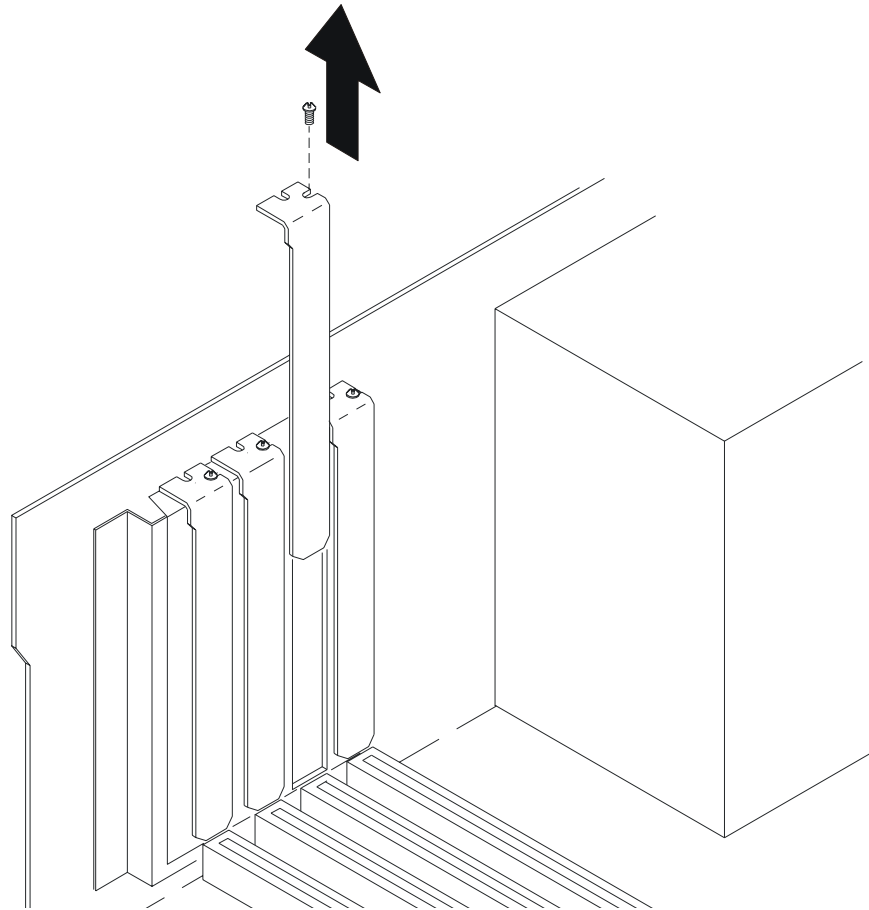

Figure 4-3 Removing the PC Expansion Slot Cover.
3. Remove the corresponding expansion slot cover from the computer chassis (Figure 4-3).